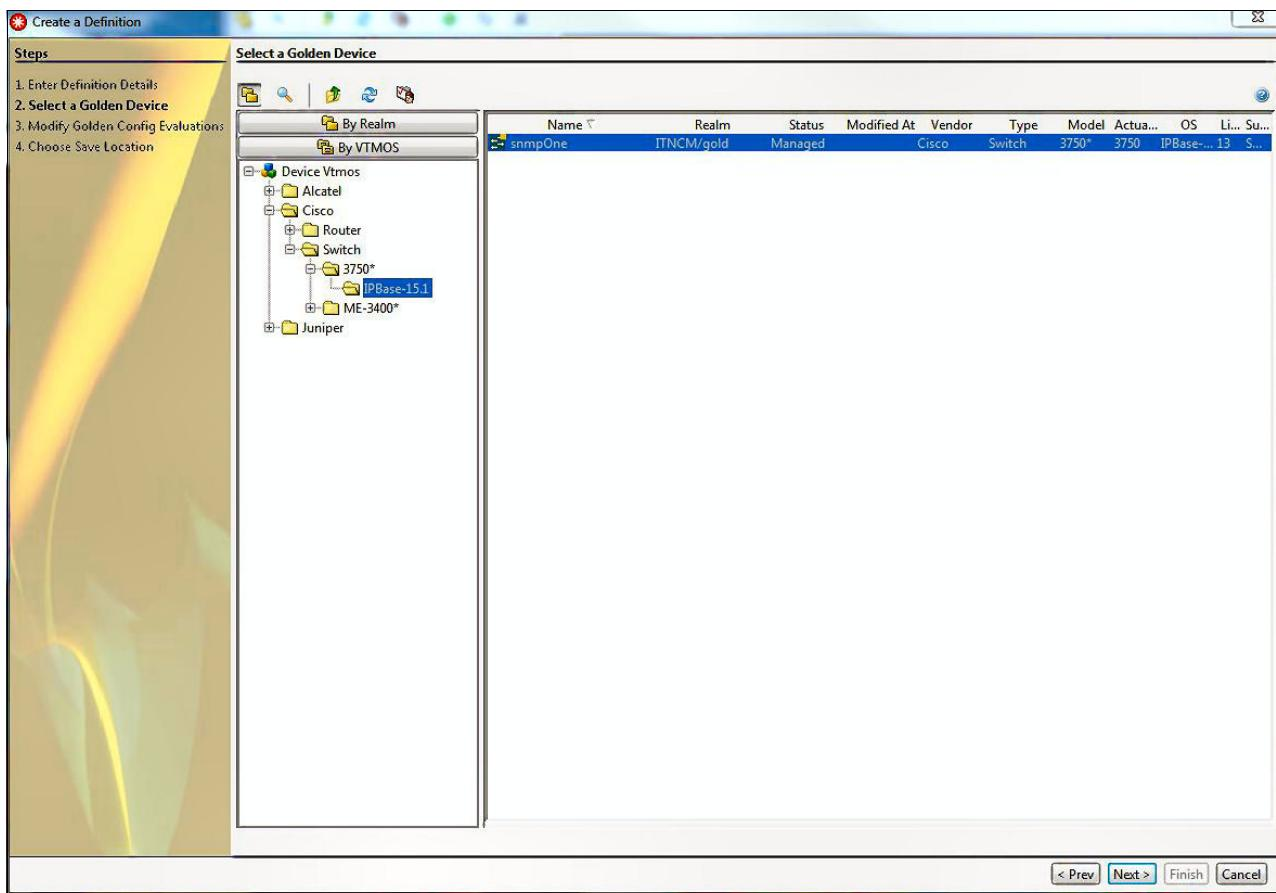

Figure 4-14 Golden Configuration selection
- In the next pane, select the designated golden configuration, snmpOne, to use in this definition by using the By Realm or By VTMOS selection panes. Then, click **Next**, as shown in Figure 4-14.